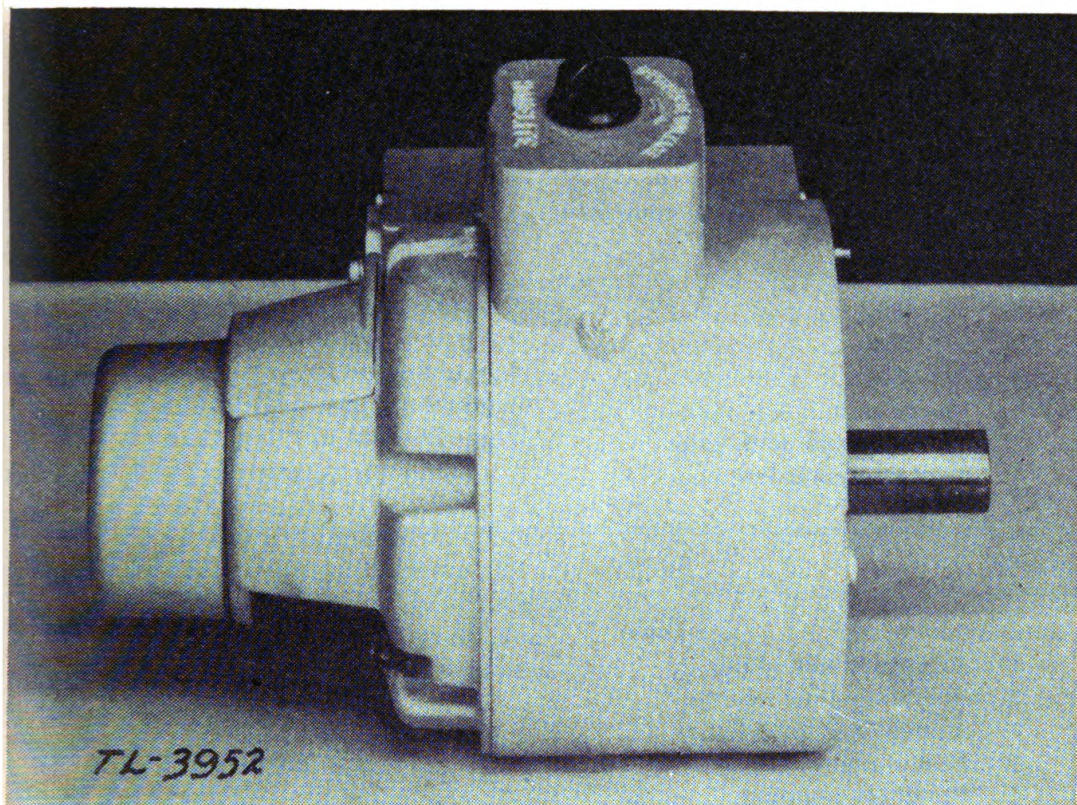

FIGURE 3.—Generator assembly.
b. Generator.—The generator is a Homelite Corporation model HTRA, self-excited, 110-volt, 60-cycle, single-phase, a-c generator of 2,500 watts rating and incorporates a filter box assembly attached thereto. (See fig. 3.)